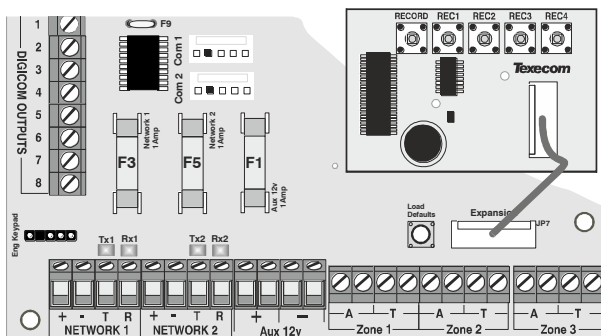

Figure 2. Premier Elite Speech Module Connected to Expansion Port on PCB
2. Plug the Premier Elite Speech Module (see Figure 2) onto the 7 way Expansion Port of the control panel.